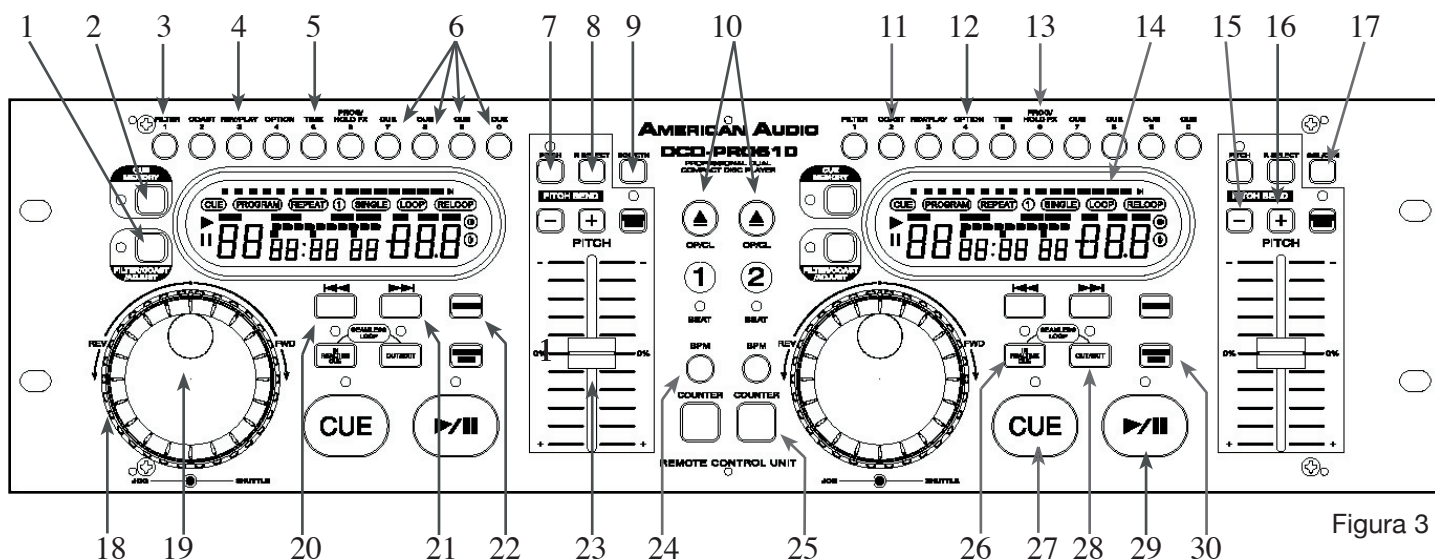

Figura 3
A. CONTROL REMOTO – FRENTE (FIGURA 3)